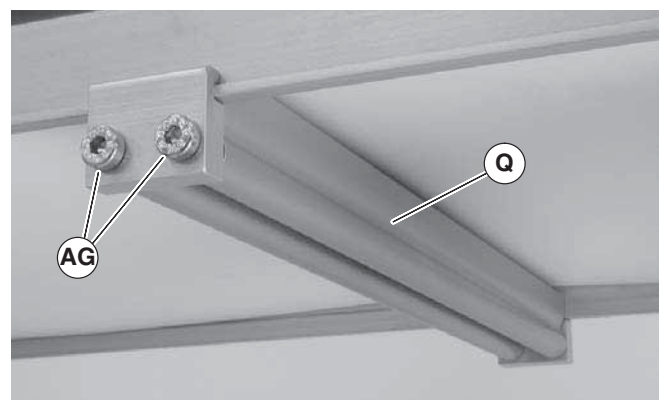

Figure 16
- Install roller assembly as shown (Figure 16, item Q).
- Tighten screws (AG) to 60 in-lb (7 Nm).